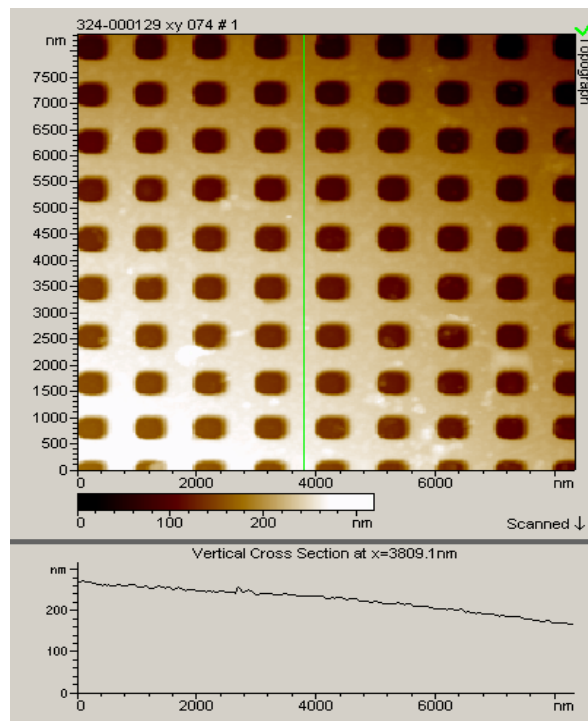

Fig. 5.1 Topography (top) and cross-section (bottom) images of a standard grating with raw image rendering
- Raw image rendering simply shows the data as it comes in. There is no correction for the slope of the sample. In Fig. 5.1 below this slope is noted in the Y direction. This slope is due to the fact that the sample is not perfectly leveled with respect to the scanner.